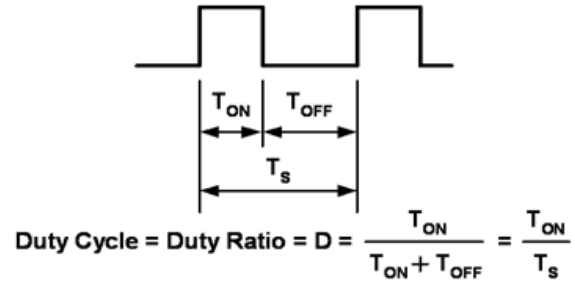

Figure 12.
LEDs on and off for a portion of a single cycle. This on/off cycle is called the Duty cycle (D) and is expressed by the amount of time the LEDs are on (T_{ON}) divided by the total time of an on/off cycle (T_s) (Figure 12).